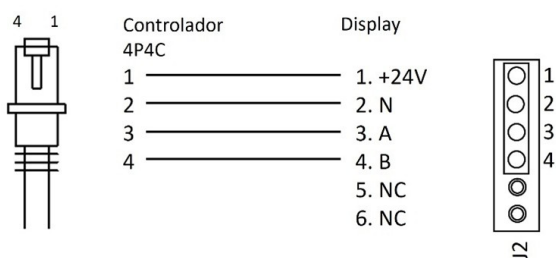

Figure 4. Cable connections (controller - Display).
- Connection via a 4-wire cable to the remote control and a 4P4C connector to the controller (figure 4).
| Connection | Quick connector 4P4C to controller and 4 cables to remote control (figure 4) |